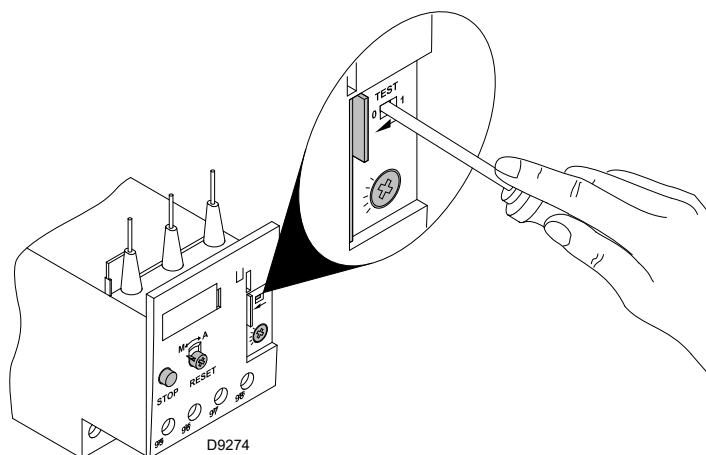

Fig. 39
- To test the overload relay, insert a screwdriver in the window **"TEST"** (Fig. 39) and move it in the sense of the arrow (towards right).